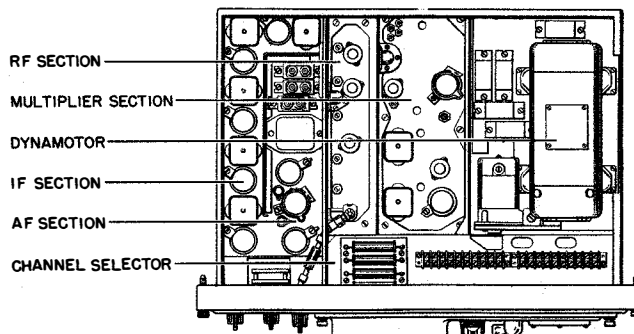

Figure 1-3. Radio Receiver CRV-46283 Chassis, top view
a. RADIO CIRCUITS.—The chassis of the receiver is divided into six sections, four of which make up the receiver circuits proper, the other two containing the dynamotor and the selector mechanism respectively. The arrangement of the sections is indicated in the top view of the chassis, Figure 1-3.